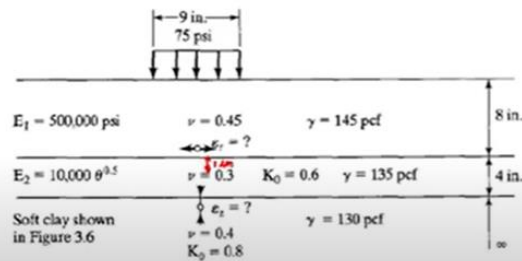

FIGURE P3.5
3.5 Figure P3.5 shows a three-layer system under a single-wheel load. Layer 1 is linear elastic, layers 2 and 3 nonlinear elastic. The loading, thicknesses, and material properties are shown in the figure. With the use of KENLAYER, determine the maximum tensile strain at the bottom of layer 1 and the maximum compressive strain at the top of layer 3 by (a) method 1 in which layer 2 is subdivided into two layers, each 2 in. thick, and (b) method 2 in which layer 2 is considered as one layer and the stress at the upper quarter point of layer 2 is used to determine  $E_2$ . [Answer: (a)  $1.02 \times 10^{-4}$ ,  $2.85 \times 10^{-4}$ ; (b)  $1.04 \times 10^{-4}$ ,  $2.85 \times 10^{-4}$ ]